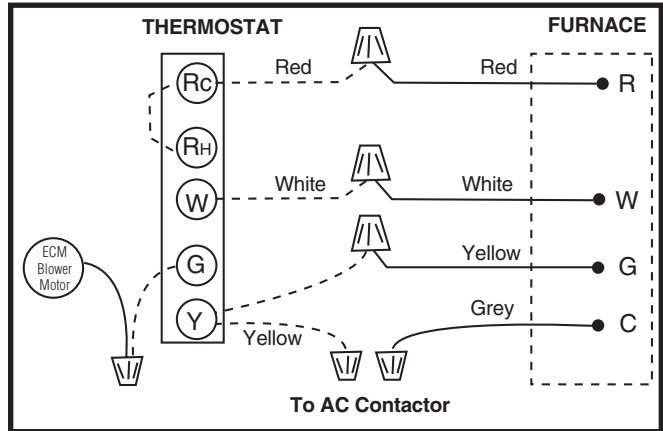
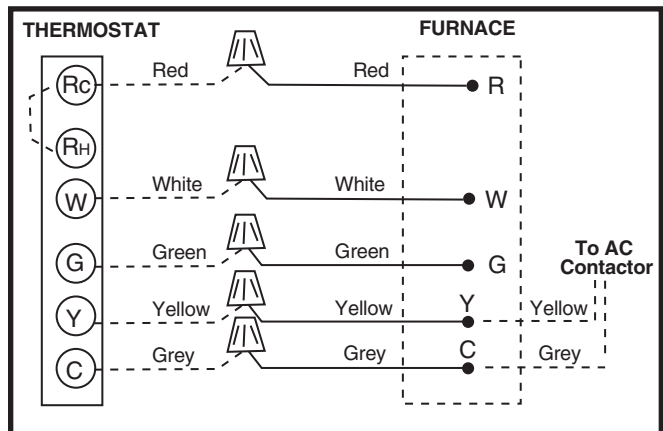

Figure 25. Thermostat Wiring for UTEC/NORDYNE Control boards
Figure 26. Thermostat Wiring for Emerson control boards
Proper line voltage polarity must be maintained in order for the control system to operate correctly. Verify the incoming neutral line is connected to the white wire and the incoming "hot" line is connected to the black wire. The furnace will not operate unless the polarity and ground are properly connected as shown in Figure 25 and Figure 26 \(page 14\).
2. Connect the thermostat wires to the furnace low voltage pigtails (dependent on the installation application). See Figure 25 and Figure 26 \(page 14\). **NOTE:** If AC is installed with the furnace, a Y connection is required to be made at the furnace. See Figure 32 \(page 27\) and Figure 33 \(page 28\).